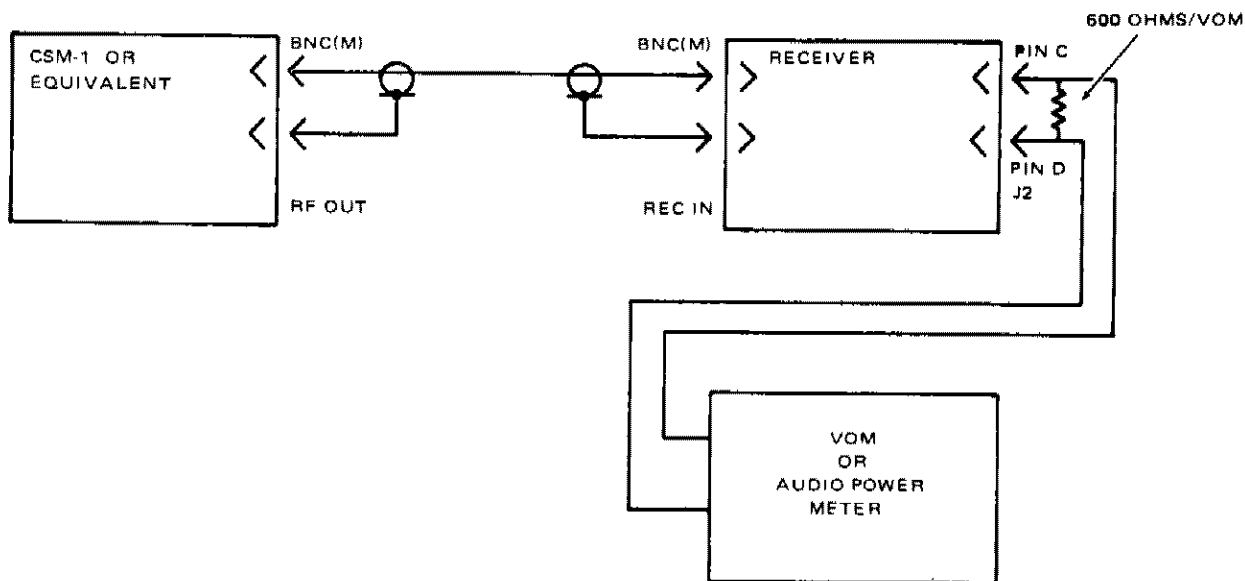

Figure 6-4. Test Setup for Power Output
**6.6 POWER OUTPUT.**- The purpose of this procedure is to determine if the receiver is capable of delivering maximum power output (100 mW) for which it was designed. Figure 6-4 shows the test setup.